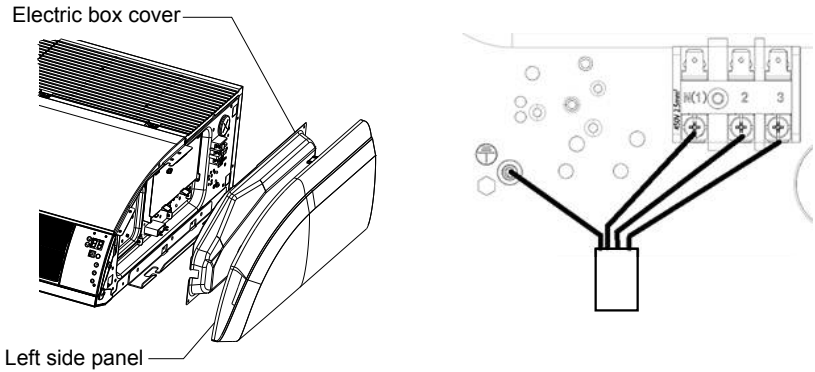

Fig. 28
| ③ . | Connect the indoor unit connection cord properly based on the corresponding marks as shown in Fig. 28. |